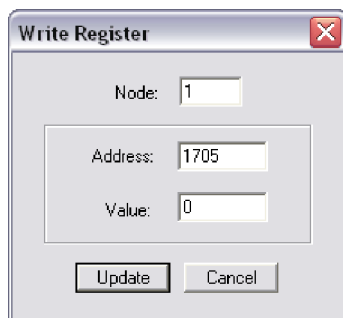

Fig. 274: Write register - enable the resetting procedure via RS-232/RS-485
- ⇒ Fig. 274 shows how the parameter is enabled using the ModScan32 Software. The value must be set to "1" to enable the parameter.